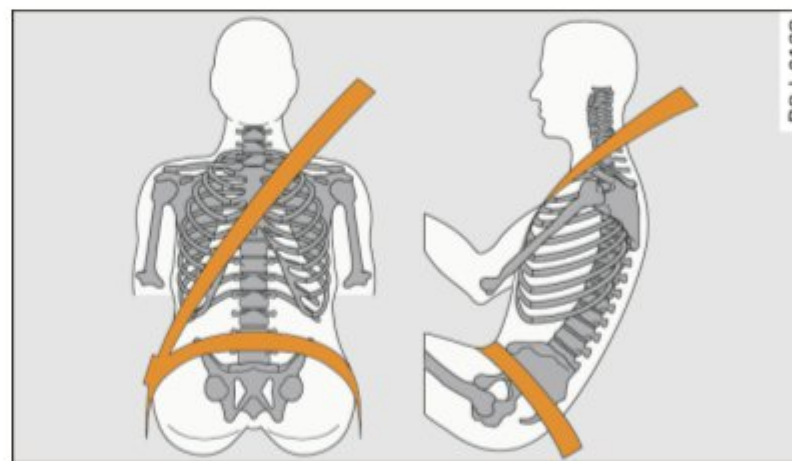

Fig. 132 Head restraint and safety belt position as seen from the side
- The safety belt must lie flat and snug on the occupant's upper body ⇒ fig. 132. Pull on the belt to tighten if necessary.
- The lap belt portion of the safety belt must be positioned as low as possible across pelvis and never over the abdomen. Make sure the belt lies flat and snug ⇒ fig. 132. Pull on the belt to tighten if necessary.